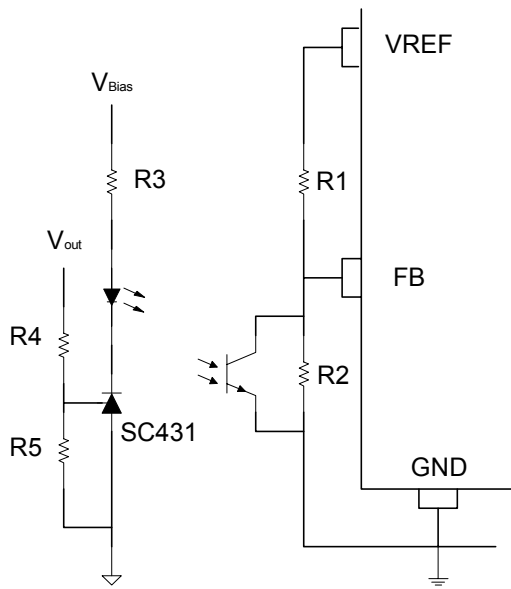

Fig.9 Cycle-by-cycle over-current limitation
SC4810 can also be configured to implement cycle-by-cycle over-current limit. As illustrated in Fig. 9, cycle-by-cycle over-current limitation can be achieved by adjusting the values of R1 and R2 to limit the voltage of FB pin to less than the threshold voltage (0.6V) of the hiccup over-current protection, using equations (3) and (4).